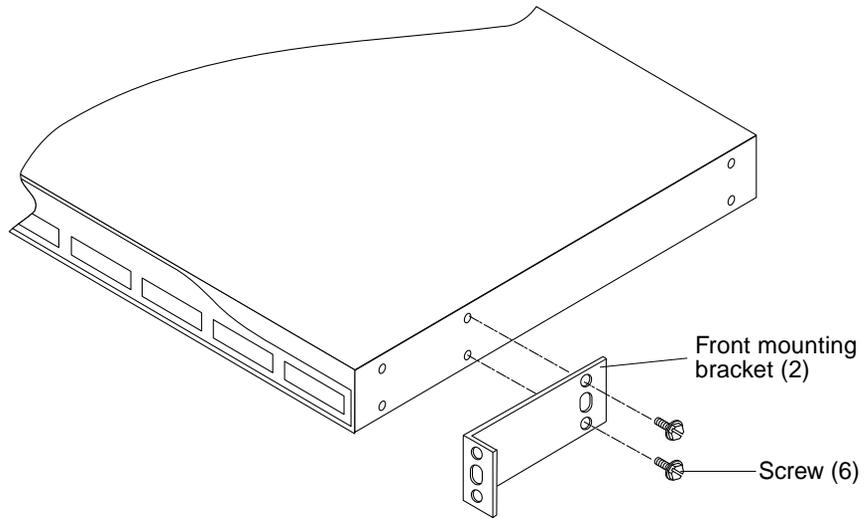

FIGURE 9-7 Installing the Ethernet Switch Front Bracket
- 2. Using a No. 2 Phillips screwdriver, install the two screws securing each front mounting bracket to the Ethernet switch (FIGURE 9-7).**